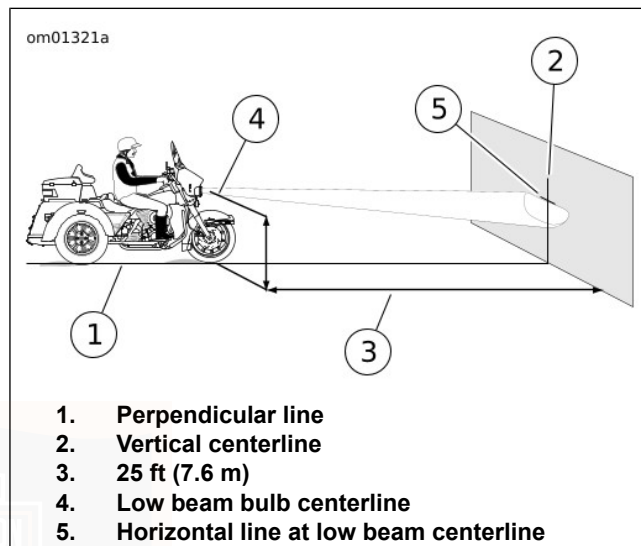
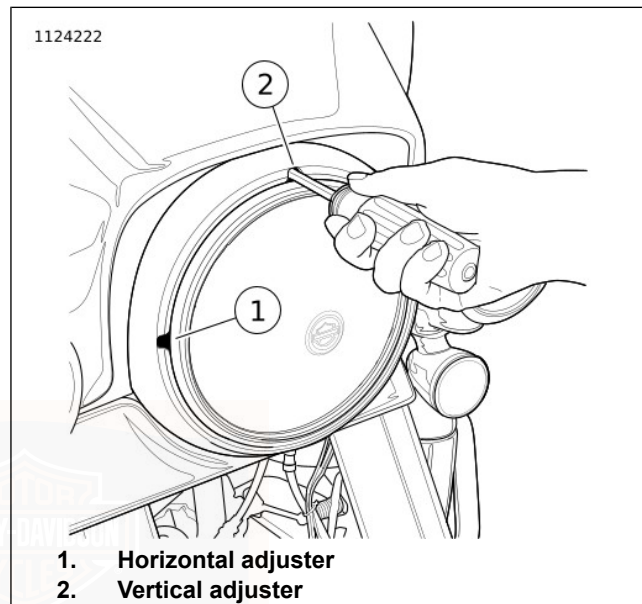

Figure 75. Headlamp Alignment: LED
Figure 76. Headlamp Adjusters: All except Frame-Mounted Fairing (typical)
4. See Figure 75. Park the motorcycle on a line (1) perpendicular to the wall.
6. Draw a vertical centerline (2) on the wall.
7. With the motorcycle loaded, point the front wheel straight forward at wall. Measure the distance (4) from the floor to the center of the low beam bulb.
8. See Figure 75. Draw a horizontal line (5) through the vertical line at low beam centerline.
See Figure 75. The headlamp is aligned when the top of light beam hot spot is located as shown with headlamp set to low beam.
9. See Figure 75. Verify headlamp alignment.
2. See Figure 76. Insert a 5/32 ball end hex wrench through adjuster slots in trim ring.
- a. **Horizontal:** Turn the horizontal adjusting screw (1) to adjust light beam left and right.
- b. **Vertical:** Turn the vertical adjusting screw (2) to adjust light beam up and down.
3. See Figure 75. Adjust headlamp to center light beam as shown.